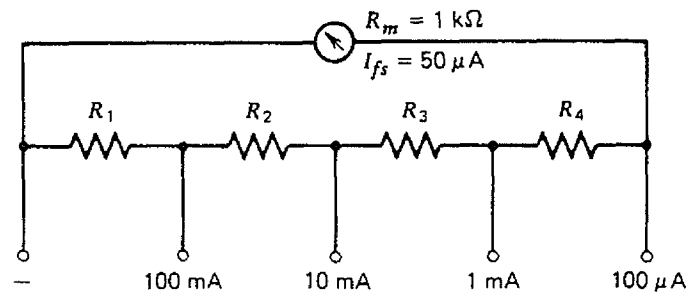

FIGURE 2-34 Circuit for Problem 2-9.
- 2-9** Calculate the value of the resistors R_1 through R_4 in the circuit of Fig. 2-34.